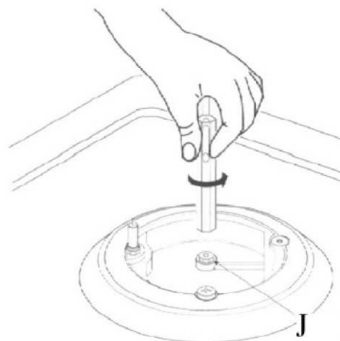

Figure 7.
- Remove the grids and burner caps from the hob; See **figure 7** below.
- Using a socket wrench, replace the injectors (J) with the suitable ones for the type of gas used.
See **figure 7** above.